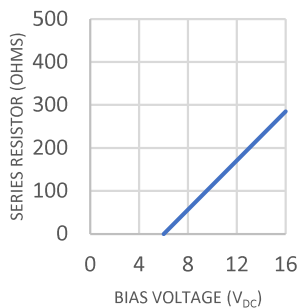

FIGURE 6
- Control input is compatible with CMOS or open collector TTL (with pull up resistor). For bias voltages above 6V, a series resistor is required. Use the standard resistor value equal to or less than the value found in Figure 6.